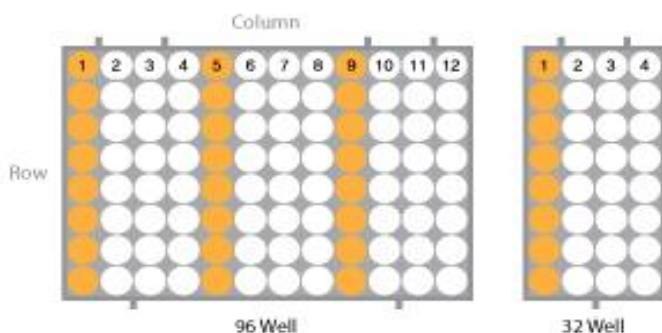

Figure 6: Samples wells (marked in orange) in respect to the Plate type
2. Dispense 800µl of Stool DNA lysis solution into each sample wells (96 wells : 1st, 5th, and 9th columns; 32 wells : 1st column) of the extraction plate (figure 6)